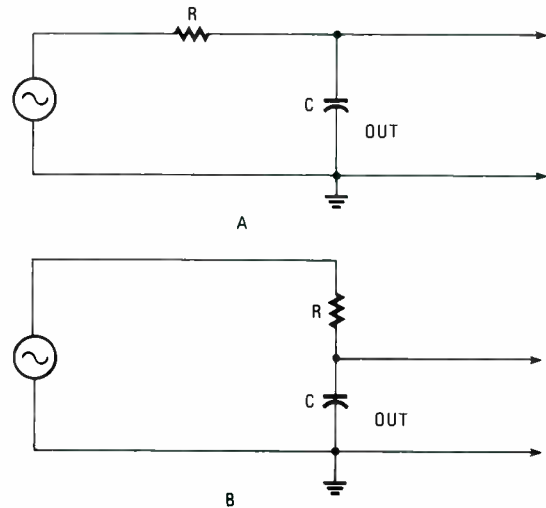

Fig. 15—The simple RC high-pass filter shown in A is simply the series voltage divider shown in B.
37. (12, octave) As shown in Fig 15, you can also make a high-pass filter (HPF) with a simple RC network. The output is taken from across the resistor, but the voltage-divider effect
38. (below) Figure 16A shows the ideal response curve of a HPF. Figure 16B shows the real response of the single RC HPF in Fig. 15. At high frequencies, X_C is very low so less voltage is dropped across the capacitor; thus, more voltage appears across the output. As the input frequency decreases, X_C goes up: More voltage is dropped across the capacitor and less appears across the output resistor. The circuit passes high frequencies and attenuates the lower frequencies.